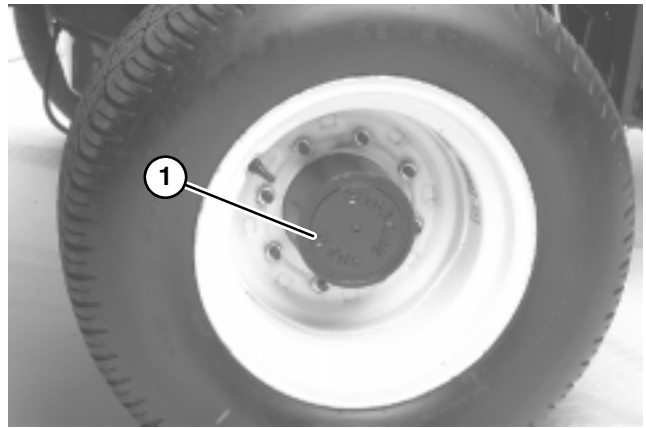

Figure 62
1. With machine on level surface, position wheel so the check/drain plug is at lowest position (Fig. 62).